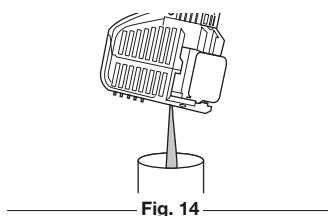

Fig. 14
3. Tip the unit vertically to pour the oil out of the oil fill hole and into a container (Fig. 14). Allow ample time for complete drainage.